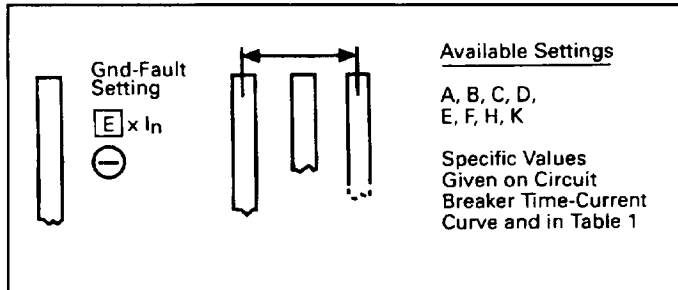

Fig. 8.6 Ground Fault Current Settings
The eight (8) Ground Fault "Pick-Up" Current Settings are labeled with the code letters "A" through "K" (except there are no "G" or "I" settings), as illustrated in Fig. 8.6. In general, the specific current settings range from 0.25 to 1.0 times (I_n), the rating plug value, but cannot exceed 1200 A. The specific Ground Current Settings for each letter are listed in Table 4 and on the (G) Time-Current Curve applicable for the circuit breaker (see Section 6.)